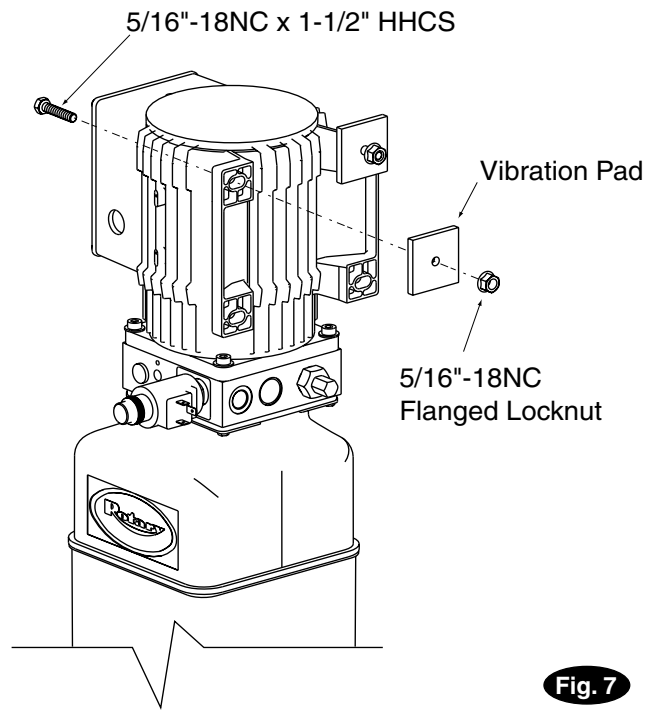
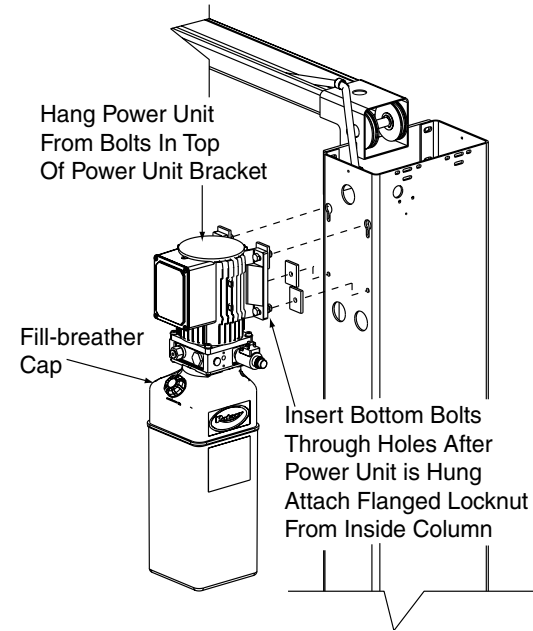

Fig. 7
Fig. 8
9. **Power Unit:** Put (2) 5/16"-18NC x 1-1/2" HHCS thru top holes in power unit bracket using Vibration Pad to hold in place, Fig. 7. Install 5/16"-18NC Flanged Nuts until bolt end is flush with end of nut. Install power unit onto column extension, Fig. 8. Slide bolt/nut combination into top set of holes and down to bottom of slot. Install HHCS, Vibration Pad, and Flanged HHCS in bottom power unit holes and tighten. (Be sure to place vibration pad between power unit and column extension). Tighten top HHCS and Nut.
**11. Oil Filling:** Remove fill-breather cap on power unit, Fig. 8. Fill with (8) quarts of Dexron III ATF, or hydraulic fluid that meets ISO 32 specifications. Replace fill breather cap.